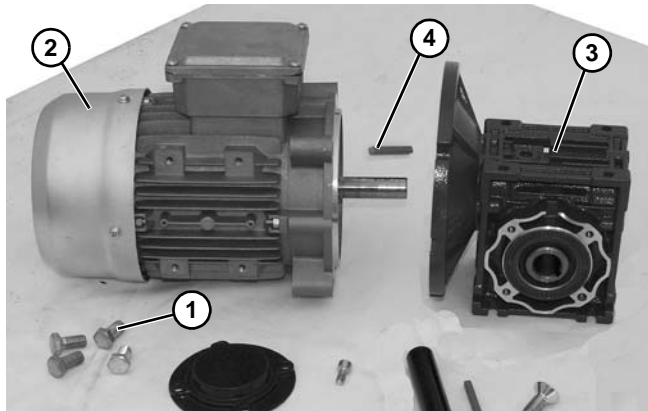

Figure 21
6. Remove four screws (**Figure 21, item 1**). Detach motor (**Figure 21, item 2**) from gear reducer (**Figure 21, item 3**). Retain shaft key (**Figure 21, item 4**).
13. Apply anti-seize to motor shaft before assembling to gearbox. With key (Figure 21, item 4) in keyway, slide motor (Figure 21, item 2) and gear reducer (Figure 21, item 3) together. Install screws (Figure 21, item 1) and tighten.